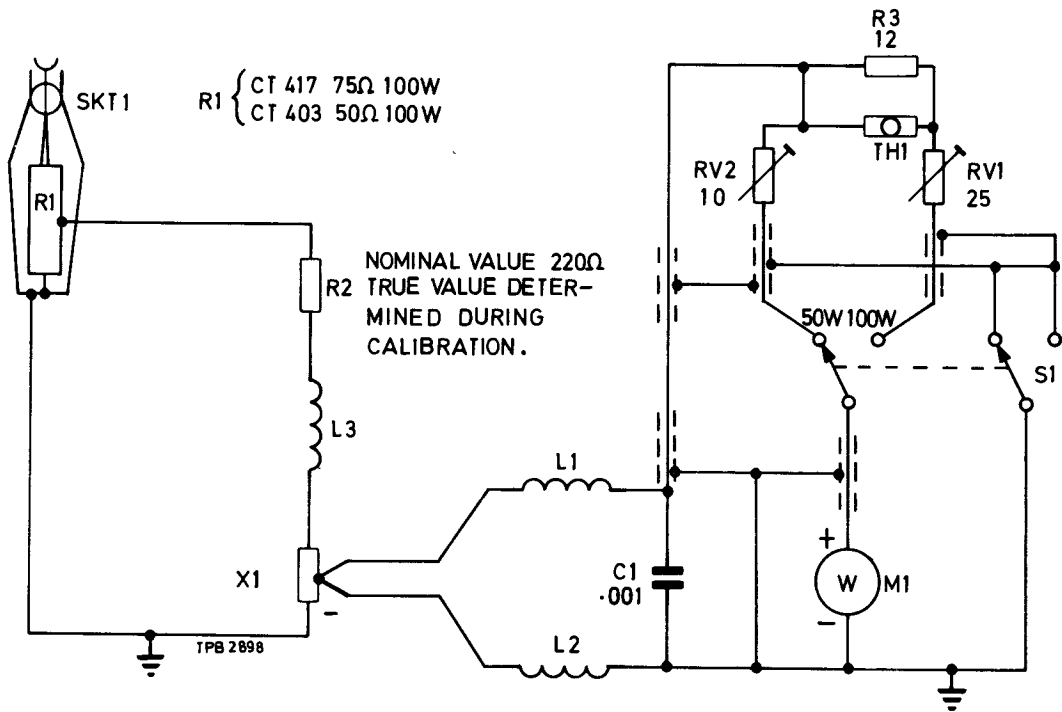

Fig. 5 Wattmeter CT403 and CT417 - modified circuit
5. Instruments with serial numbers prefixed 826 and above have a thermistor, TH1, with a shunt resistor, R3, added in series with RV1 (Fig. 5) to improve the temperature characteristic of the 100 W range.